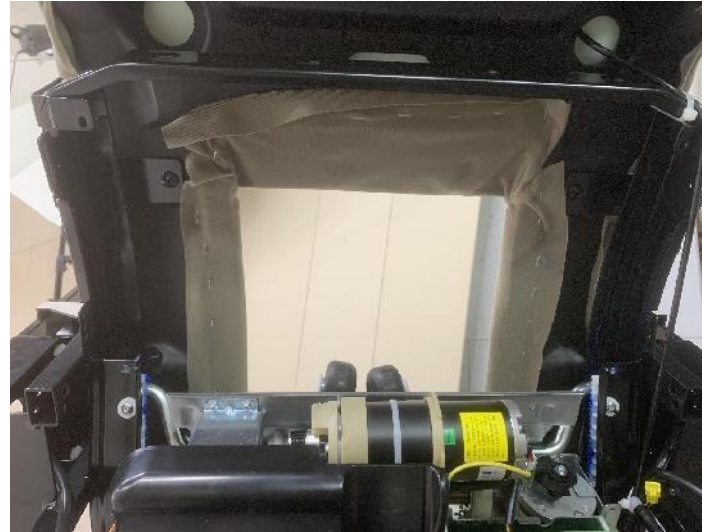

Figure 2
2. Remove the left and right guide rail patches (Figure 2)